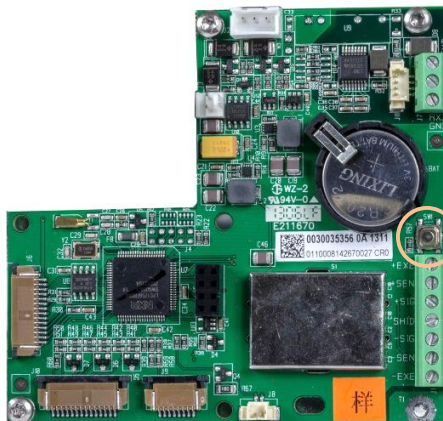

Figure 3-2: Setup Switch Location on Terminal Main Board
- If the terminal is configured as legal for trade, the user can only access setup by pressing the setup-switch (a hardware switch on main-board, indicated in Figure 3-2). The terminal will then display the F1 (Scale) menu label and scale parameters can be modified.